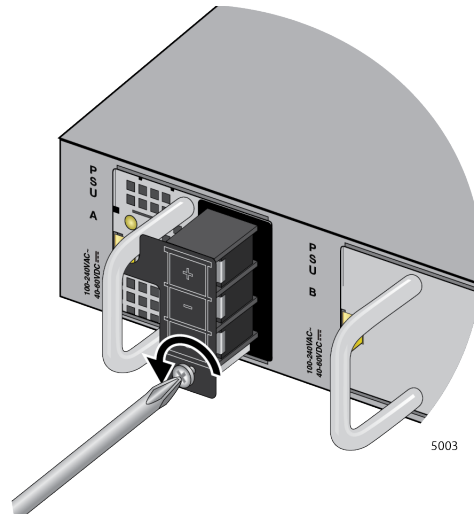

Figure 42. Loosening the Screw for the Panel
2. Loosen the screw for the connector panel several turns with a Phillips-head screwdriver. Refer to Figure 42 on page 94.